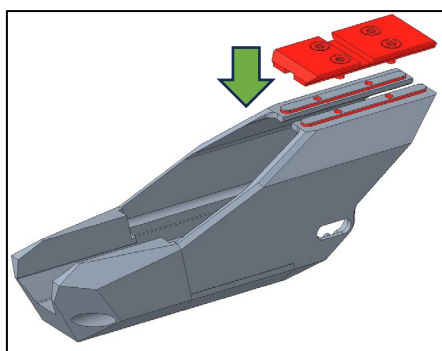

Figure 48: Securing the optics interface plate on top of the bridge mount
2. Chose the correct interface plate for the optics to be mounted, and attach it with 4 short M3 screws (T10 Torx key) onto the top of the bridge mount (Figure 48).